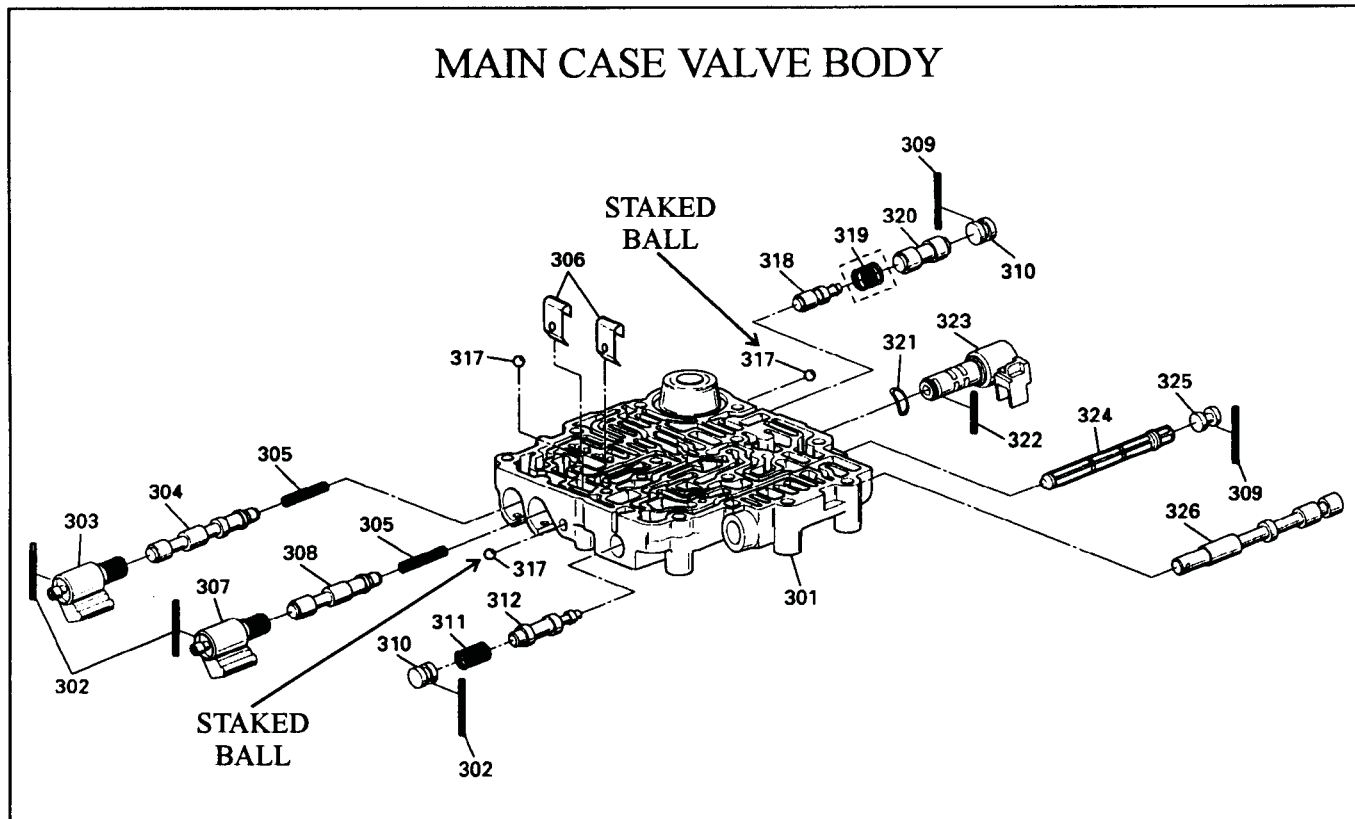

Figure 82
3. Use Figure 82 to disassemble, clean, identify valves and solenoids, and then re-assemble the main case valve body properly.
5. Install 1-2 accumulator spring, piston, and pin into main case valve body, as shown in Figure 82.